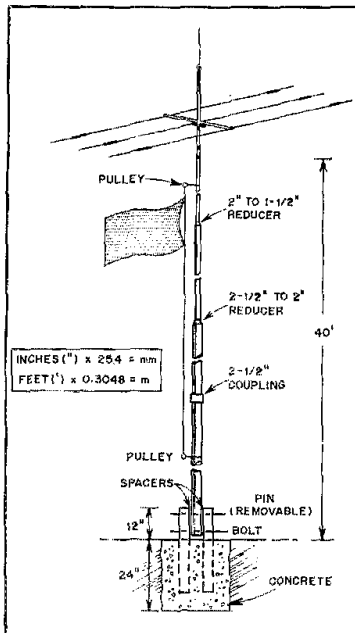

Fig. 4 — A combination flag pole and antenna mast is designed by John Reisenauer, Jr., KA7BK1. See text for details.
□ Being a true-blue American and an homeowner, I decided to install a flagpole so Old Glory could be proudly displayed. I was also tinkering with the idea of constructing a low-cost antenna tower to accommodate several antennas that were eyesores mounted on top of my roof. After considerable thought and manipulations on the drawing board, I arrived at the design shown in Fig. 4. Not only is this combination flagpole and antenna mast intended to support the 10-, 15- and 20-meter tribander shown in the drawing, but also an AR2 Ringo will be mounted above the tribander and a single-wire antenna will be suspended from the pole solely for "SWLing."